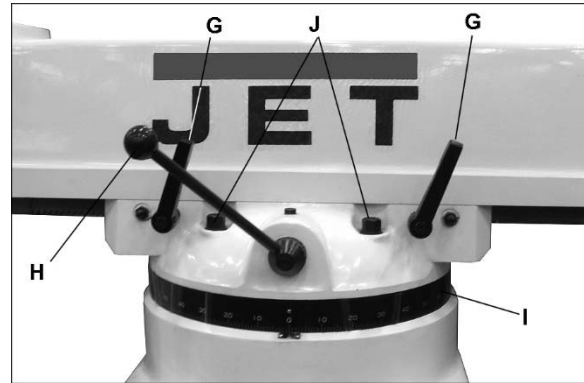

Figure 11: Ram positioning
Refer to Figure 11.
1. Loosen handles (G, Figure 11) that lock the ram to its ways.
2. Turn lever (H) to slide ram.
3. When desired position is reached, lock handles (G) securely.
1. Loosen four turret lock bolts (J, Figure 11) that clamp the ram to the top of the base. One-half (1/2) turn should be sufficient to allow the turret to move.